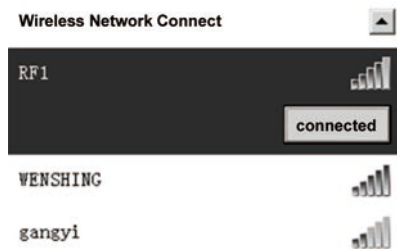

Figure 34
11. When set up complete, PC connect the network of handheld reader (like the RF1 network), click connect RF1 network (Figure 34).